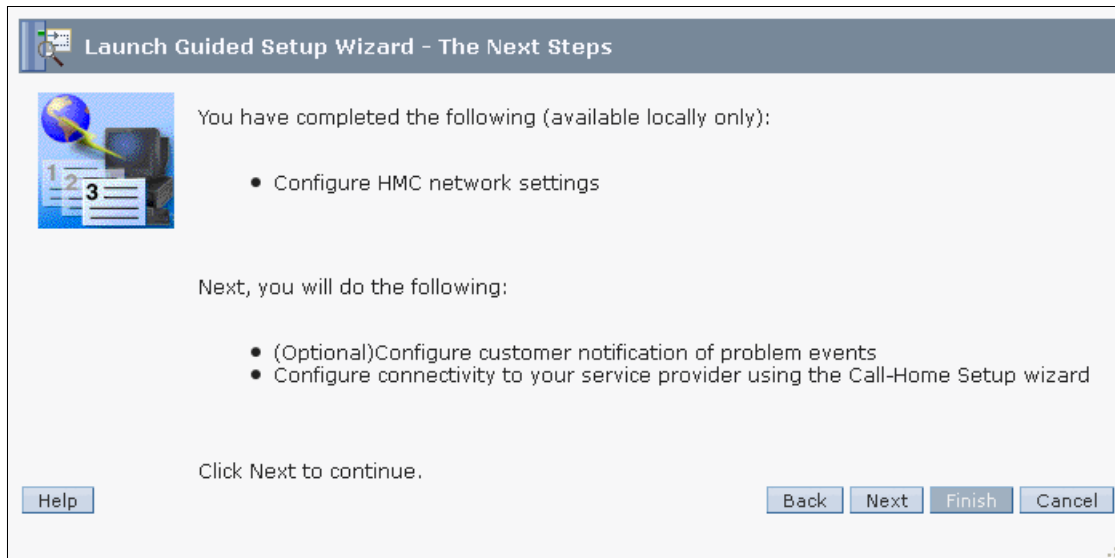

Figure 3-19 Launch Guided Setup Wizard - The Next Steps panel
23. The Launch Guided Setup Wizard - The Next Steps panel is displayed (see Figure 3-19). This step completes the network configuration section of the Guided Setup wizard. Now continue with the next part of the wizard.